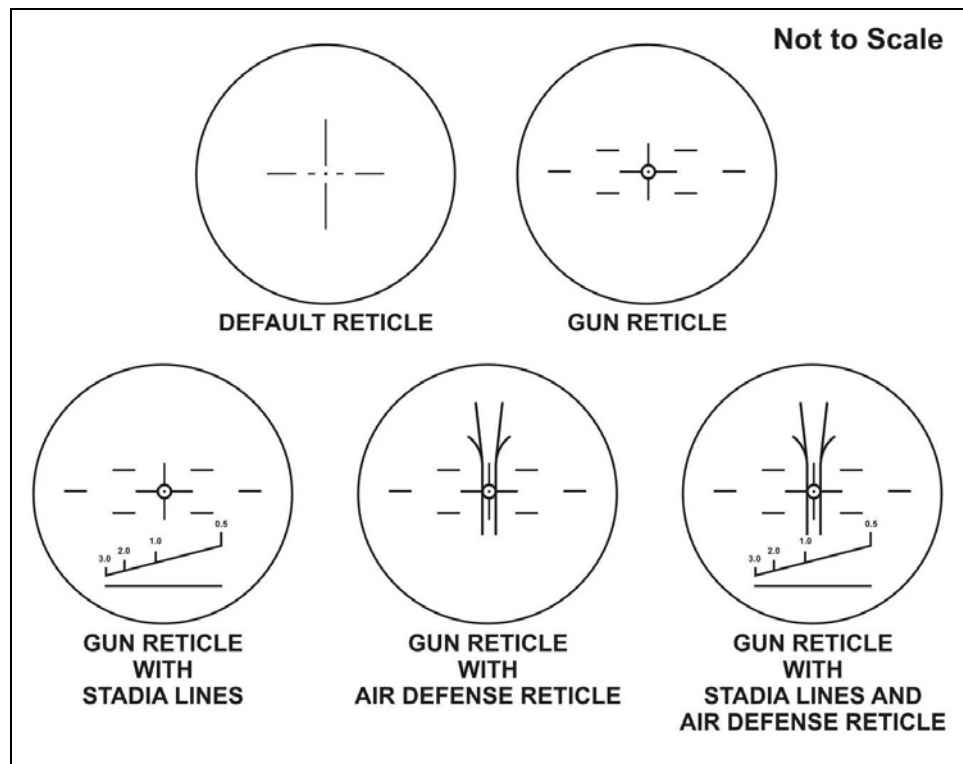

Figure 6-16. Selection of Bradley A3 reticle.
(3) **A3 IBAS or CIV Reticle.** He can use the Bradley A3 IBAS, its CIV, and the ISU horizontal-ranging stadia to estimate range. (Figure 6-16, page 6-19.)
(8) **Reticles.** When using the Bradley A3 IBAS reticle and CIV reticle, the crew can select the default reticle, gun reticle, air-defense reticle, and horizontal-ranging stadia through the CTD (Figure 6-16, page 6-19).